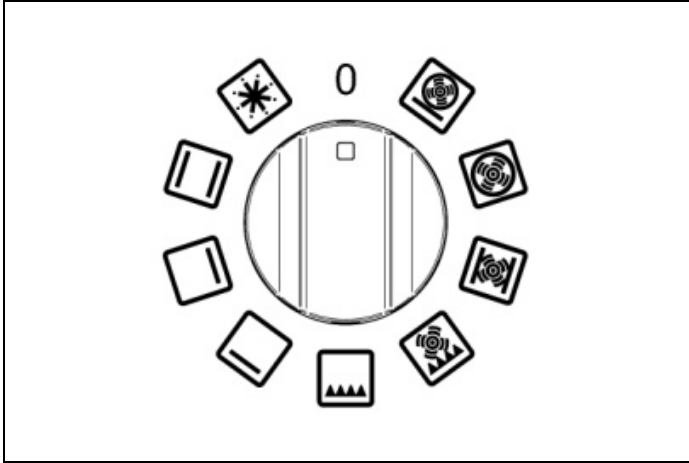
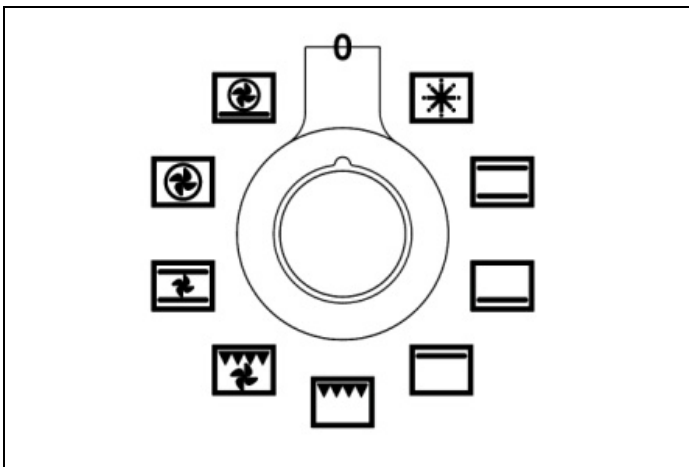
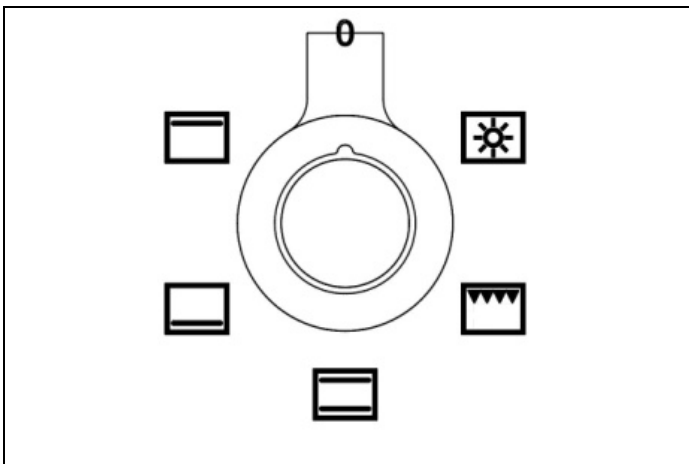

Fig. 25
Fig. 26
Fig. 27
- 1) Turn the functions knob (Fig. 25 - Fig. 26 and - Fig. 27 ) clockwise to select the function required.